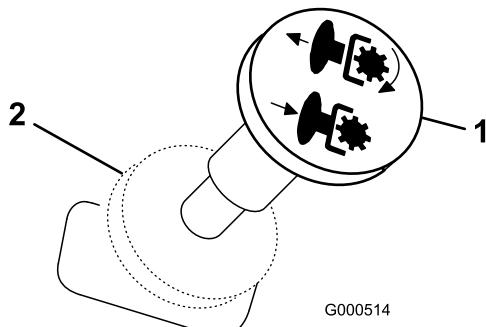

Figure 7
2. Disengage the blades by moving the blade control switch to Off (Figure 7).
- Disengage the blades by moving the blade control switch to Off (Figure 7).